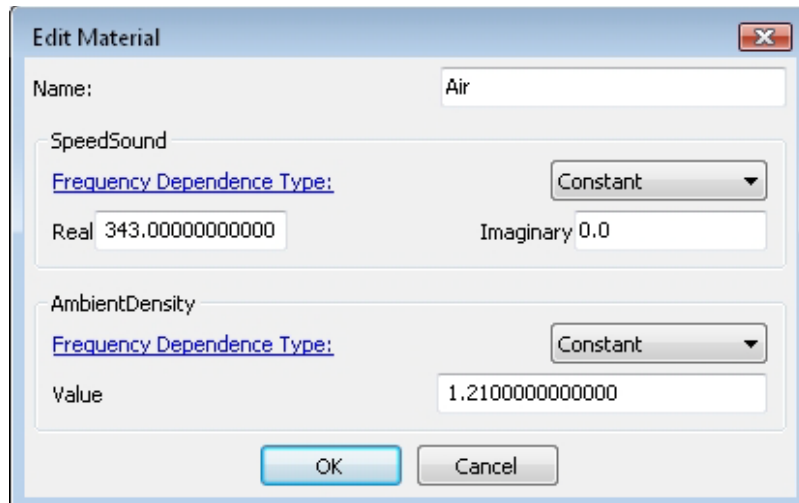

Figure A.14 Edit material properties.
- In the main model menu select: **Model** → **Materials** → **Air**. Right-click on **Air** and select **Edit...**. Figure A.14 will appear.